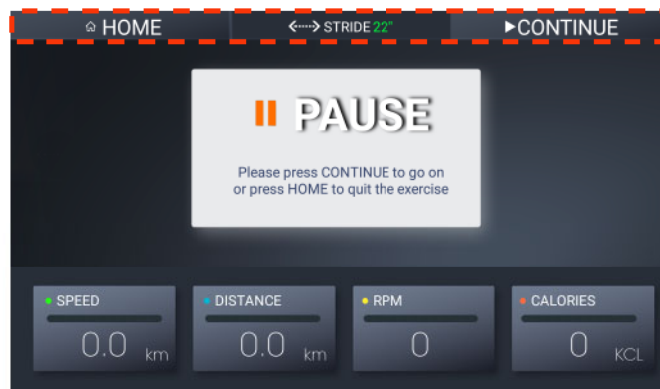

Fig.13 Paused Training
- ✧ Press  to continue (Fig.13)